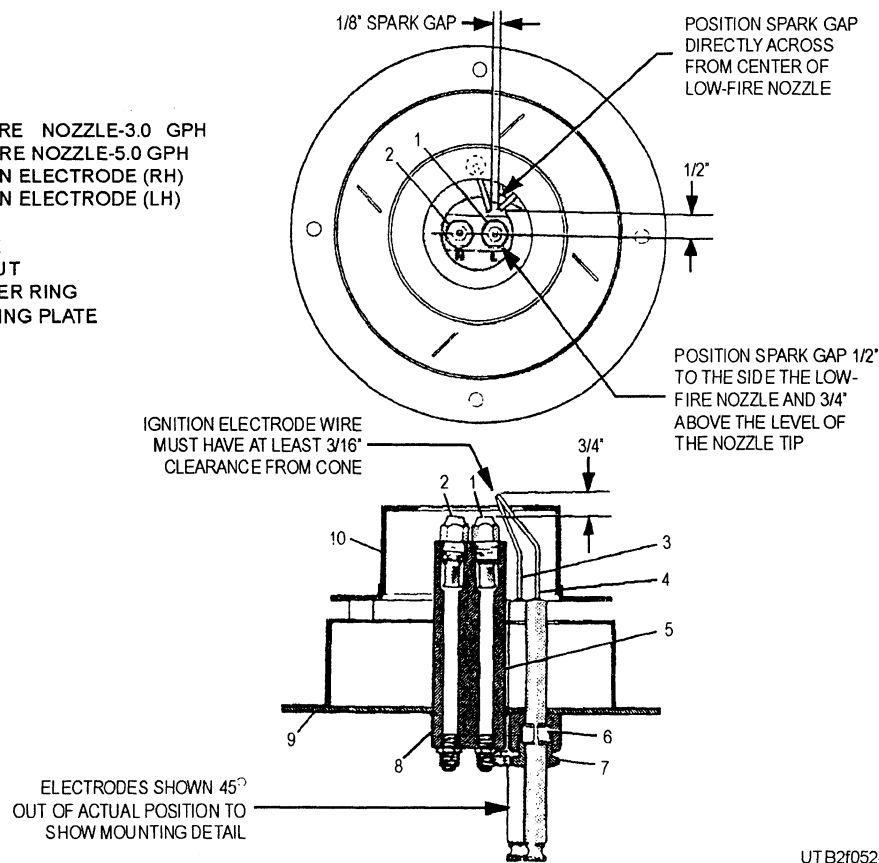

Figure 5-24.—Burner manifold.
- The burner manifold (fig. 5-24) requires cleaning and adjusting at times to keep it in good shape. Remove the manifold. Scrape carbon deposits from the manifold and ignition electrodes. Clean the burner nozzles and strainer.
- Adjust the ignition electrodes to conform with the dimensions shown in figure 5-24. The gap must be positioned as accurately as possible, so it is at the immediate edge of the nozzle spray. Be careful when bending and adjusting the electrodes to avoid cracking the insulators. The insulators may develop an invisible short due to such a fracture, resulting in ignition failure.